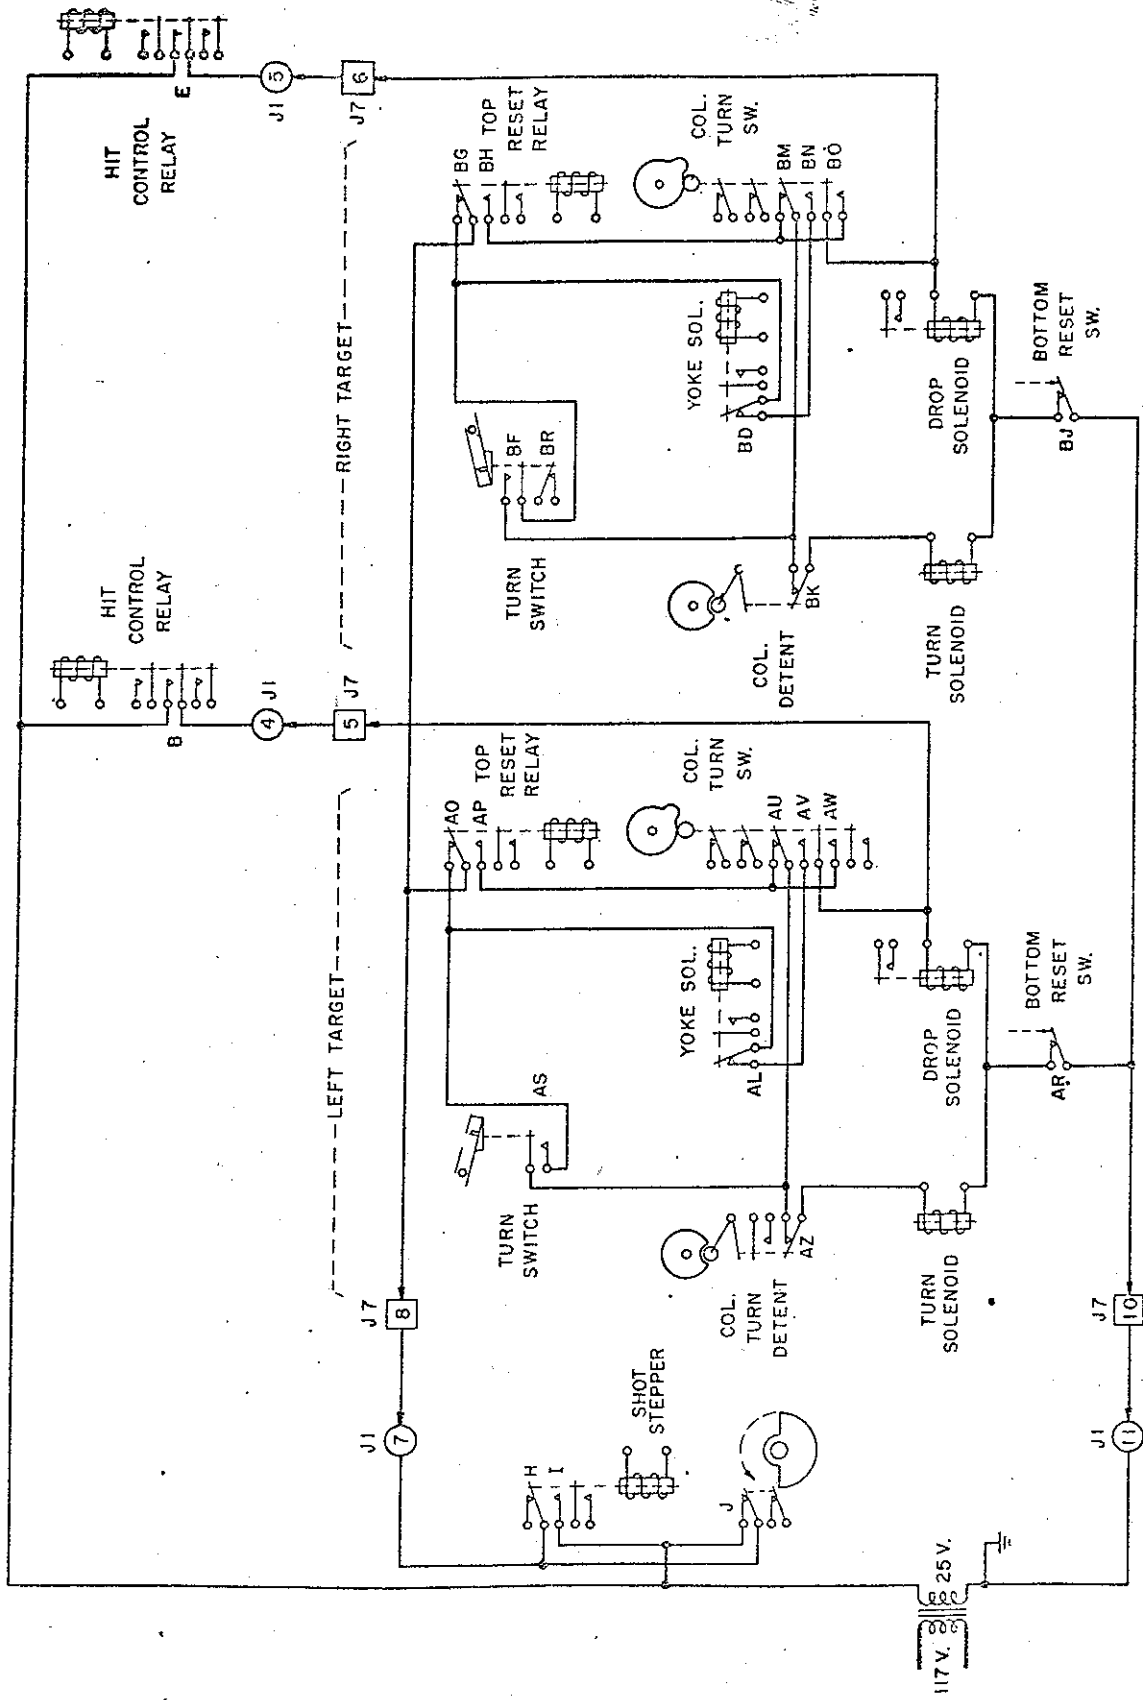

Figure 9.
b. Contact BH closes 25 volts to Turn Solenoid through BM (Column Turn Switch) and BK (Column Detent Switch). Figure 9.
6. As target moves to back of tree, swivel disk operates Column Turn Switch and Contact BO closes 25 volts to Drop Solenoid through BH (Top Reset Relay). Figure 9.
15. BJ closes 25 volts to Turn Solenoid through BG (Top Reset Relay), BD (Yoke Solenoid Switch), BN (Column Turn Switch), BK (Column Detent Switch). Figure 9.